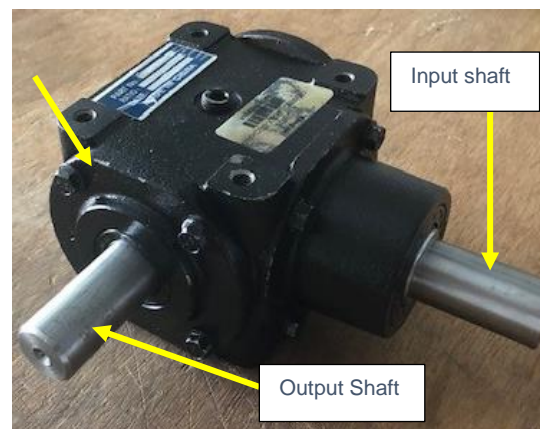

Figure 112
In addition to the seals the bearings can be replaced in the gearbox. There are four tapered roller bearings in the gearbox. There are two bearings on the output shaft and two bearings in the end cap of the input shaft. Figure 112 Note: If the shafts, gears, or housing is damaged the entire gearbox must be replaced.
1. To replace the bearings on the output-shaft remove the four bolts holding the cap. Figure 112
1. To replace the input-shaft bearings remove the four bolts retaining the input shaft end cap. Figure 112